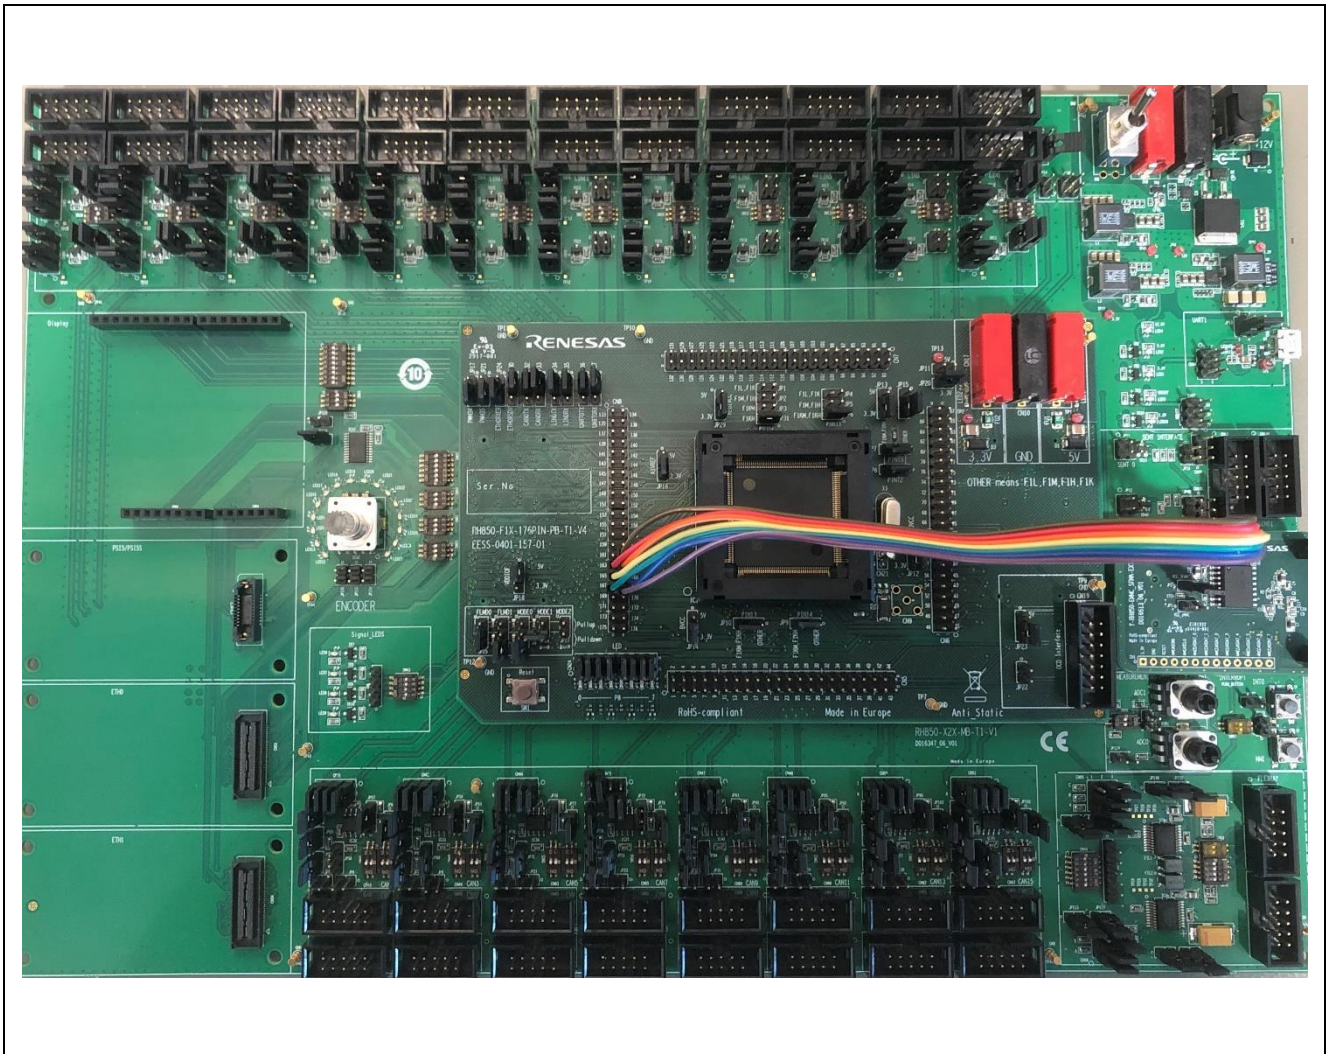

Figure 6 Wire connection piggy board to peripheral module eMMC/SFMA
- Connection between target device RH850/F1KH-D8 R7F7017093A on piggy board and serial flash IC should be done by wire (Figure 6). Please refer to Table 2